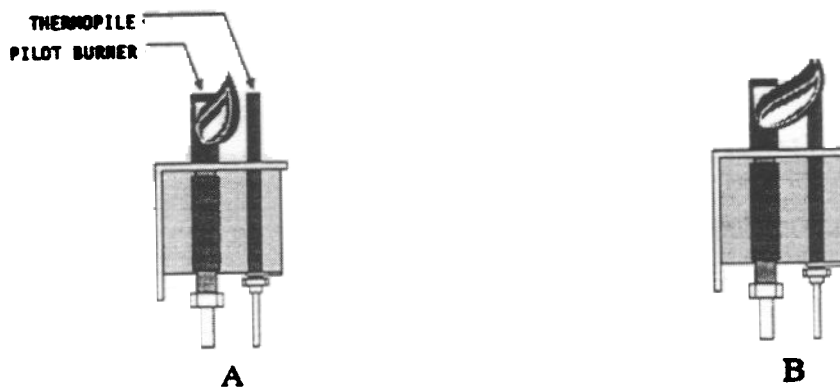

Figure 1-2 Pilot Assembly, Flame Adjustment
1.5.2.1.1 **Pilot Flame Adjustment** - The pilot flame should be adjusted to produce the proper millivolt output from the pilot sensing device. Millivolt output for the thermopile should be between 300 and 500 millivolts. Figure 1-2 shows the pilot assembly with examples of the incorrect and correct pilot size. Example A illustrates a pilot flame size that is too small to produce sufficient millivolt output. Example B is the correct size for proper millivolt output.